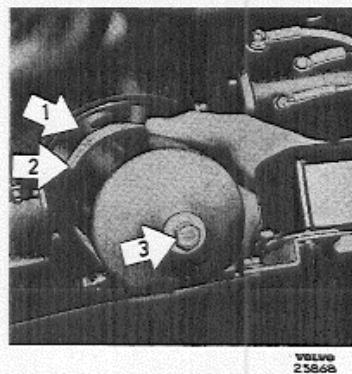

Fig. 9. Replacing the lubricating oil filter element (B 16).
2. Loosen the centre bolt (3, Fig. 9) on the housing. Collect up the oil that runs out.